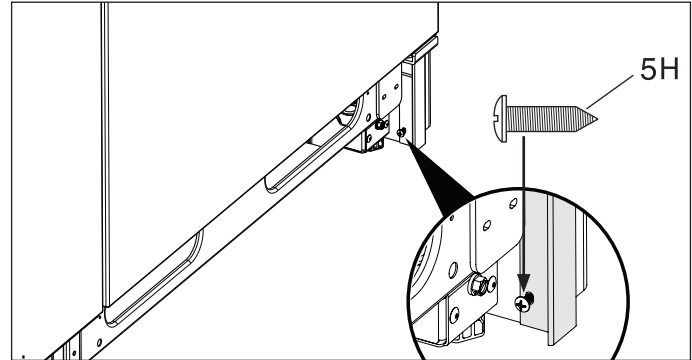

Figure 17
- Fasten bottom of side trim with screw. (See Figure 17).